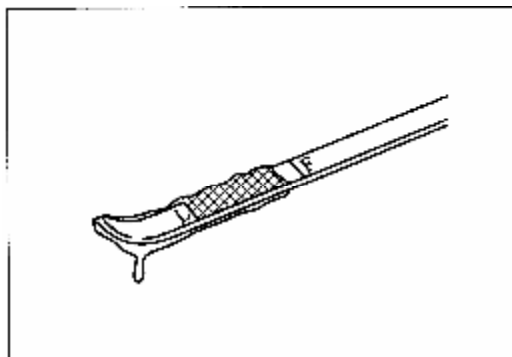

Figure 3-47 Check Oil Volume in Oil Pan with the Dipstick
- (1) Dispose properly changed oil to protect environment.
- (2) The engine oil used in lubrication system should comply with the specification in this manual (see 3.2.2)
Check the volume of engine oil in oil pan with the dipstick. The oil level should be within upper and lower scales of the dipstick. If the oil level is below the lower mark (L), check for leakage and fill with engine oil till the oil level reaches upper scale (F) (see Figure 3-47).